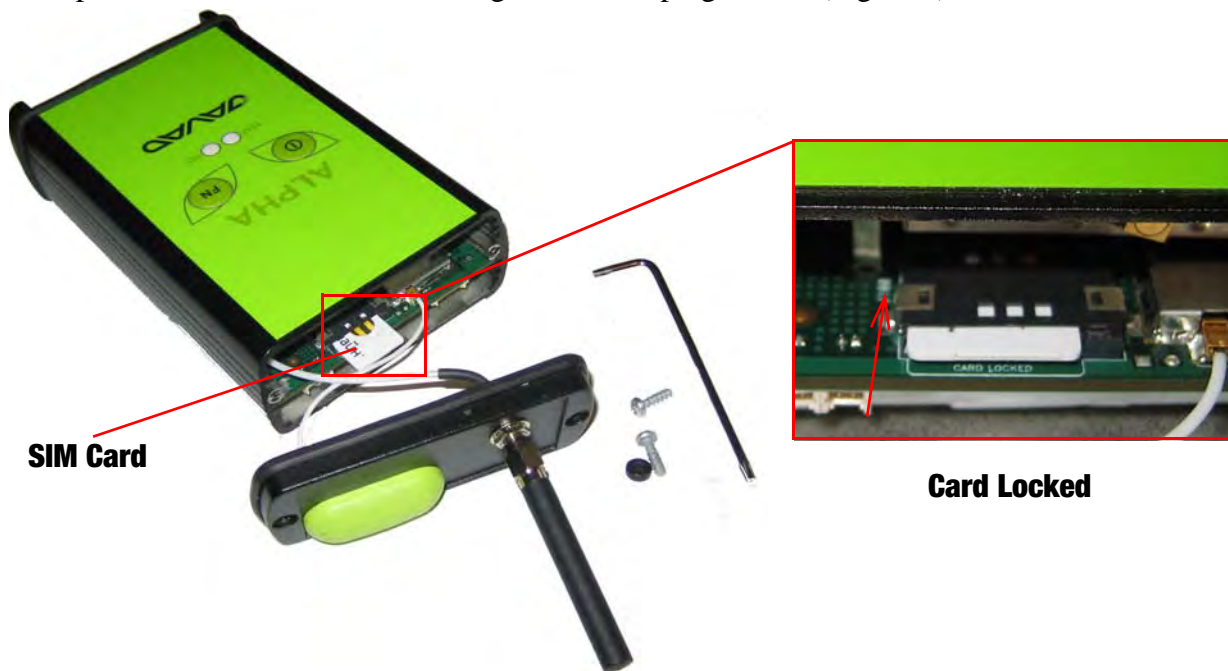

Figure 1. SIM Card Installation
2. Open the front of the case screwing off 2 self tapping screws (Figure 1)